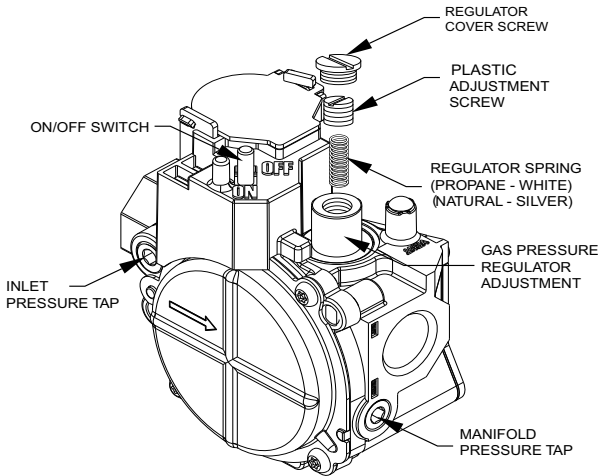
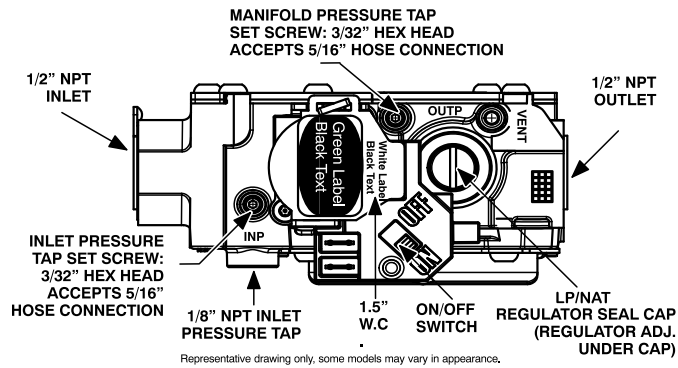

Fig. 16 – Single-Stage Gas Valve (208/230 VAC Models)
Fig. 17 – Single-Stage Gas Valve with Tower Pressure Ports
- a. For standard gas valves, remove manifold pressure tap cover using an allen wrench. (See Fig. 16). Install barbed pressure tap and hose to connect to manometer. Turn on gas supply to unit.
- b. For gas valve with tower pressure ports, loosen set screw on manifold tower pressure tap no more than one full turn with a 3/32-in. hex wrench. (See Fig. 17.) Connect manometer by sliding 5/16" connecting hose over the manifold tower pressure port. Turn on gas supply to unit.
1. Remove regulator cover screw over plastic adjustment screw on gas valve (See Fig. 16 and Fig. 17).
2. Turn plastic adjustment screw clockwise to increase gas input, or turn plastic adjustment screw counterclockwise to decrease input (See Fig. 16 and Fig. 17). Manifold pressure must be between 3.2 and 3.8 IN. W.C.
3. Replace regulator cover screw on gas valve (See Fig. 16 and Fig. 17).
- a. For standard gas valve, remove manometer hose and barbed pressure tap. Replace pressure tap cover using an allen wrench. (See Fig. 16.)
- b. For gas valve with tower pressure port, remove connecting hose. Tighten set screw on manifold pressure port using a 3/32" hex wrench. (See Fig. 17.)